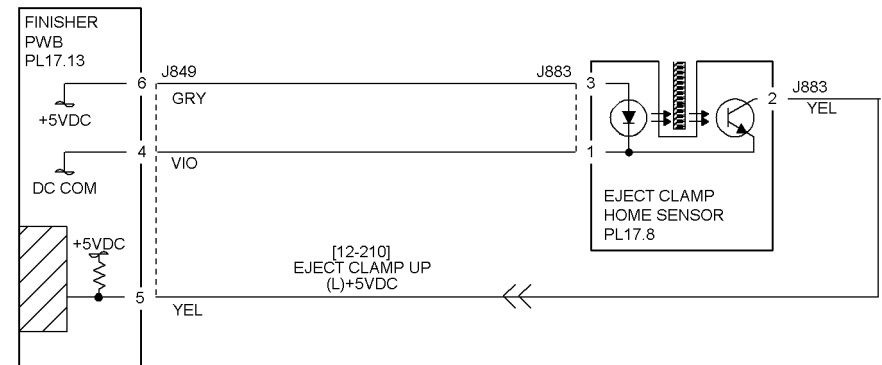
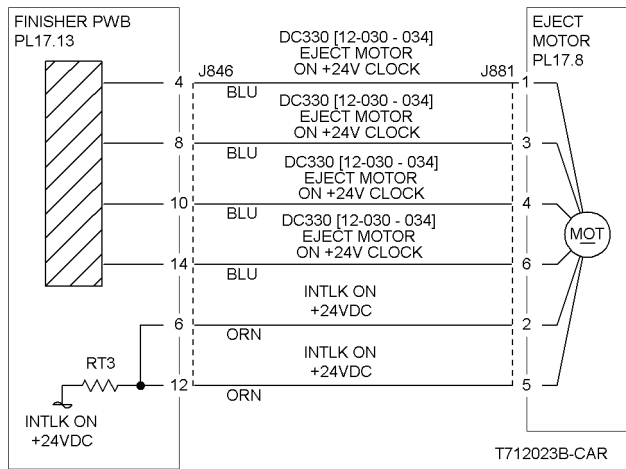

Figure 2 12-260 RAP Circuit Diagram - Eject Clamp Home Sensor
Figure 3 12-260 RAP Circuit Diagram - Eject Motor
- Ensure that the connectors shown in the circuit diagrams (Figure 2, Figure 3) are securely connected and that the wires are not damaged.